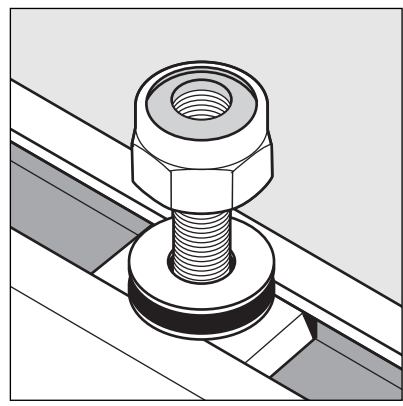

Fig. 3 : Mounting Tee Bolt
(1) Starting with the fully-assembled unit with fabric and hem-bar fitted install the main frame on the purpose-made brackets. The main frame is attached by four sliding tee-bolts in the end channels, see Fig 3.